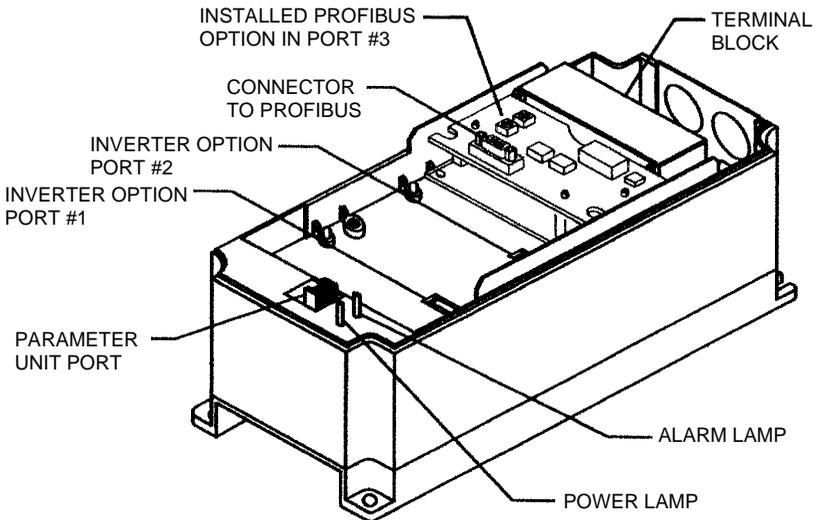

Figure 2-2. Option Unit Installed In Inverter
(4) Option unit is now mechanically installed as shown is Figure 2-2.